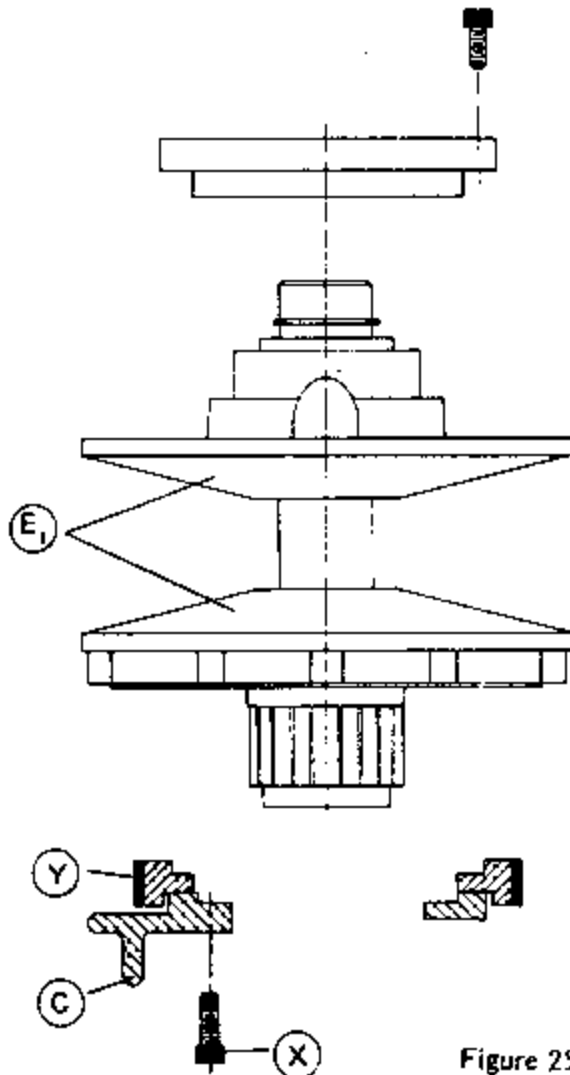

Figure 25
(3) Replacement of Brake Block (Figure 25):